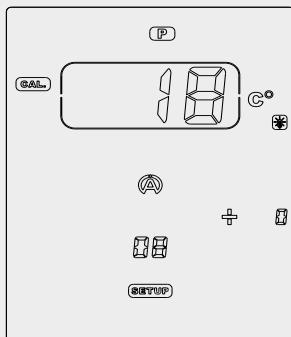

Figure 23
- 2) Press the central button **Ok** to calibrate the sensor of pressure and to leave the menu (figure 23).
- 2) Connect the sensor of temperature (*figure 23*).